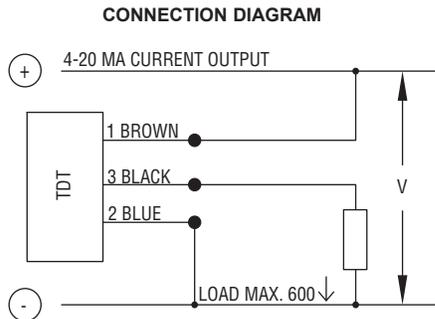

Figure 3
2.5 **Initial operation:** connect TDT to 24 VDC according to connection diagram, see Figures 3 & 4, and wait approximately 2 minutes before starting any measurements. The TDT has been calibrated to the specified type related flow rate, see model chart. At customer's plant, signal may vary depending on individual mounting and medium conditions. If re-adjustment is required, refer to point 3.